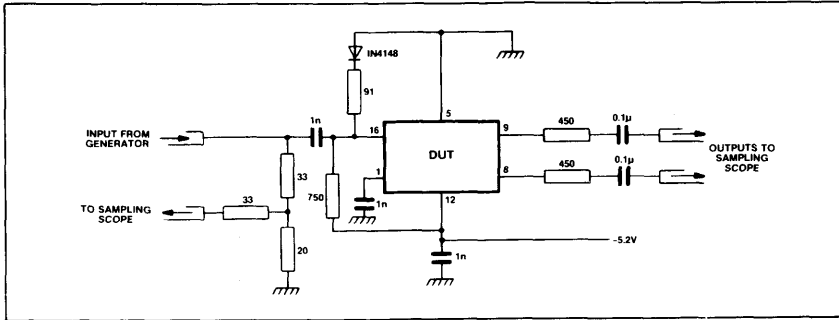

Fig.6 Test circuit
1. The clock and control inputs are ECL III compatible. There is an internal pulldown resistor to V_{EE} of 4.3k on each input and therefore any unused input can be left open circuit. If it is desirable to capacitively couple the signal source to the clock then an external bias is required as shown in Fig. 6. The external bias voltage should be -1.3V at 25°C.